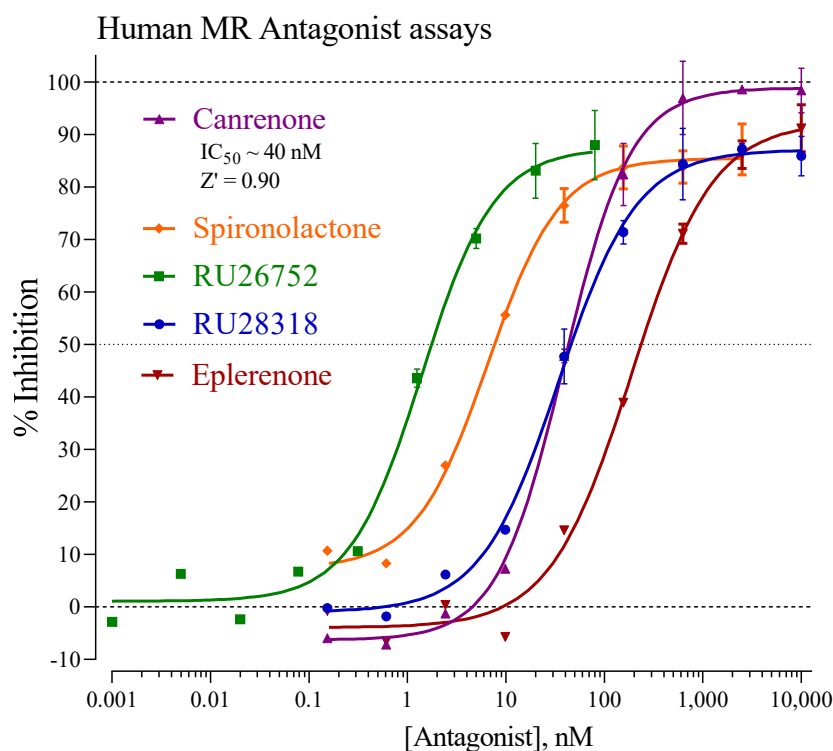

Figure 3. Validation of Antagonist-mode MR Assays
- *Optional:* reference antagonist (refer to Fig. 3)